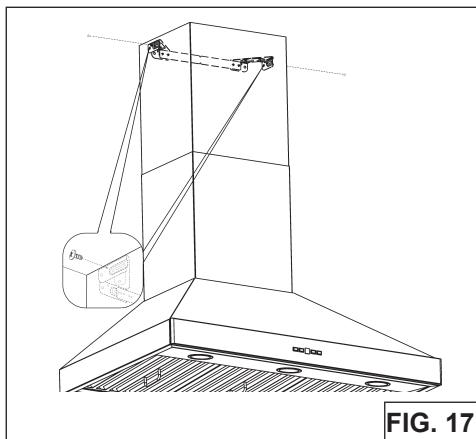

FIG. 17
7. Secure upper flue to flue mounting bracket with (2) 3.9 x 6mm screws (Fig.17).